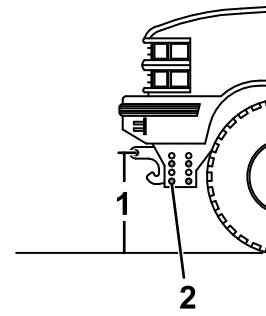

Figure 22
- Measure the distance from the ground to the coupler spring-pin holes on the undercarriage pushbeam (Figure 22). The measurement should match the height listed for your plow in Specifications (page 18).
- If the pushbeam is not at the correct height, remove the fasteners securing the pushbeam to the undercarriage (Figure 22).